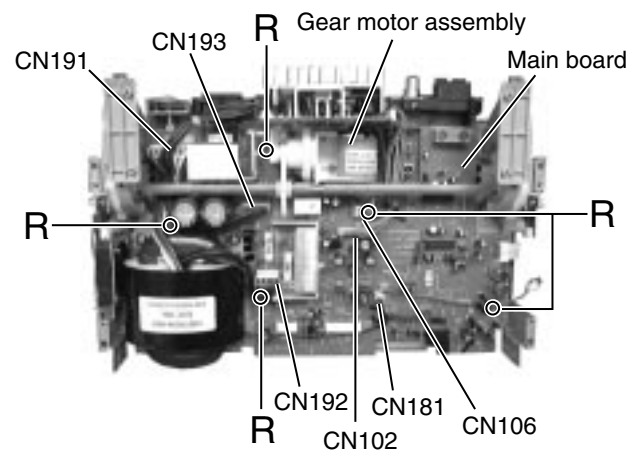

Fig.26
**■Removing the main board (See Fig.26)**